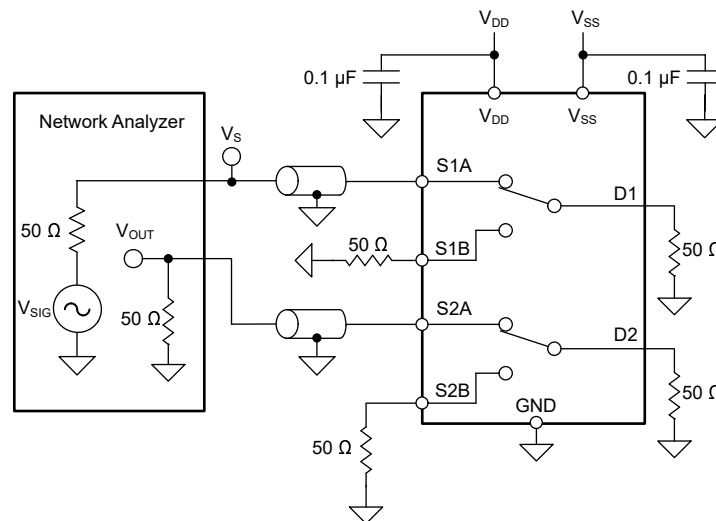

图 7-16. Inter-Channel Crosstalk Measurement Setup
2. Inter-channel crosstalk ($X_{TALK(INTER)}$): the voltage at the source pin (S_x) of an on-switch input, when a 1- V_{RMS} signal is applied at the source pin of an on-switch input in a different channel, as shown in 图 7-16.